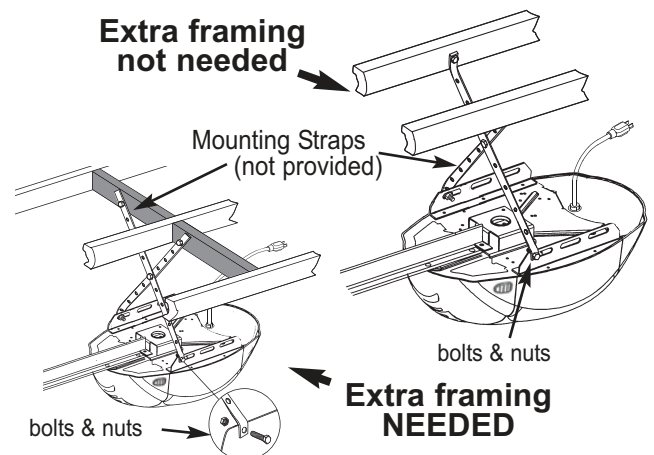

FIG. 2-6 Mounting the power head.
- On finished ceilings, locate ceiling joists or trusses using a stud finder or similar device. Attach angle iron (not provided) to joists or trusses through finish material using (provided) lag screws (**Fig. 2-6**).
- On unfinished ceilings or open ceilings, straps may attach directly to joists or trusses. Depending on the garage construction, extra framing material (not provided) which may be required should be installed using appropriate construction techniques (**Fig. 2-6**).
- Attach mounting straps (not provided) to ceiling using lag bolts (**Fig. 2-6**).
- Set height of power head to following (**Fig. 2-6**).